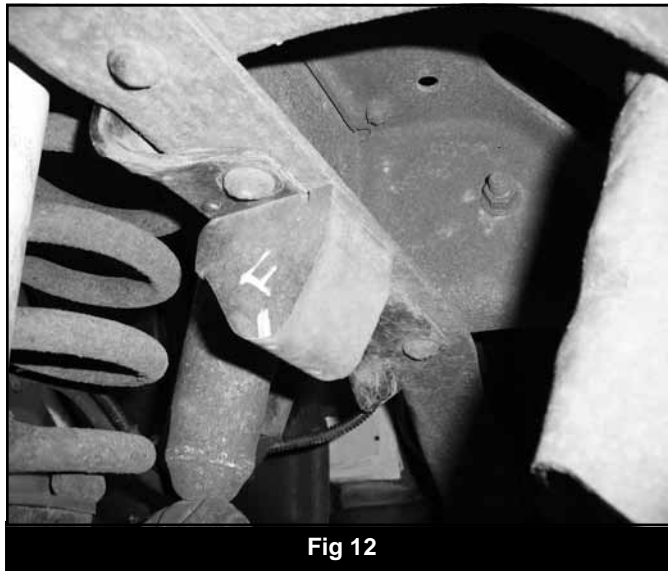

Fig 12
27. If optional bump stop extension kit #129000 was purchased, Remove nut that attaches bump stops to frame. Install bump stop drop brackets. Attach with 3/8" x 1-1/4" bolt, washers, and nut, the hole in the frame may have to be slightly enlarged to clear the bolt. Tighten to 30 ft-lbs. Attach bump stops to drop brackets. Order kit # 170001 if you want new polyurethane bump stops, not included with this kit. (Fig 12)